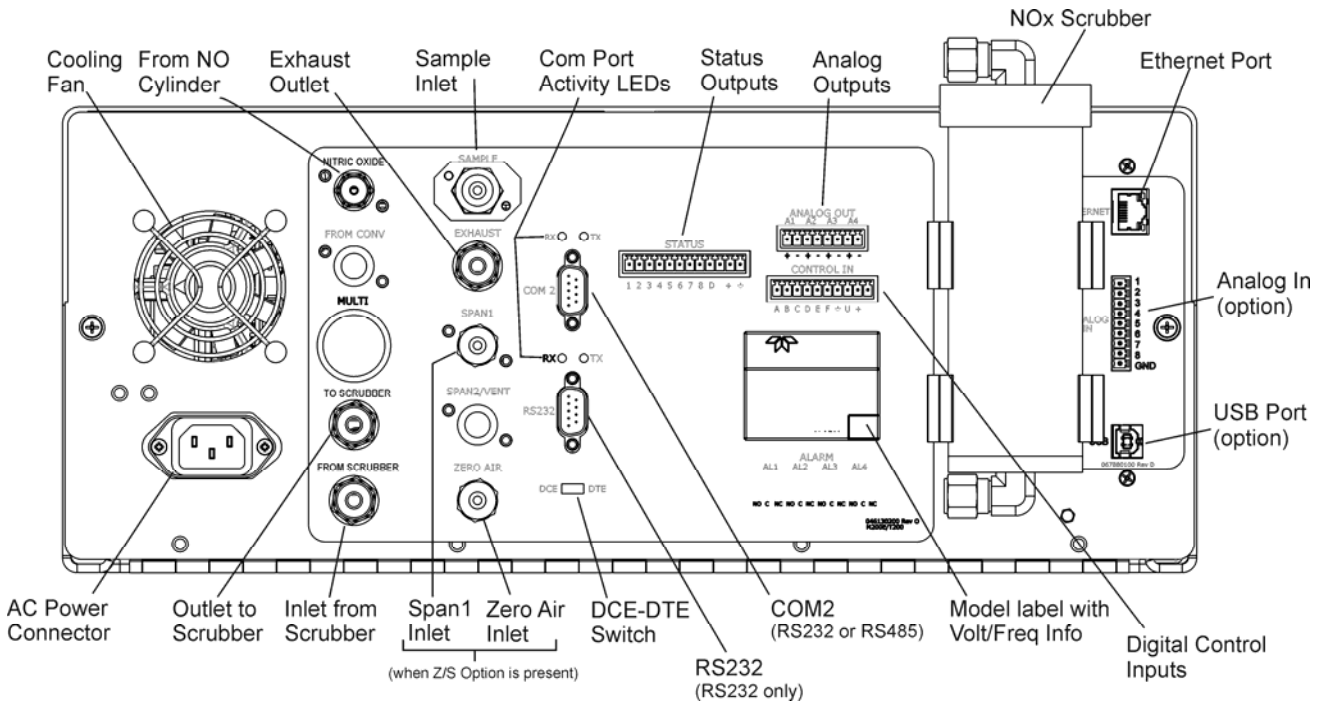

Figure 3-2. Rear Panel
Figure 3-2 illustrates the layout of the Model 265E analyzer's rear panel.
1. Refer to Figure 3-2 for the rear panel electrical and pneumatic connectors.
7. Using 1/8” stainless steel tubing, attach a cylinder with 10,000 ppm $\pm 10\%$ of nitric oxide (NO) in nitrogen (N₂), with an appropriate pressure regulator, to the 1/8” stainless steel port (labeled NITRIC OXIDE) on the rear panel as shown in Figure 3-2. Note: The NO cylinder’s pressure regulator should be set to deliver gas at 20 PSIG ± 5 PSIG.